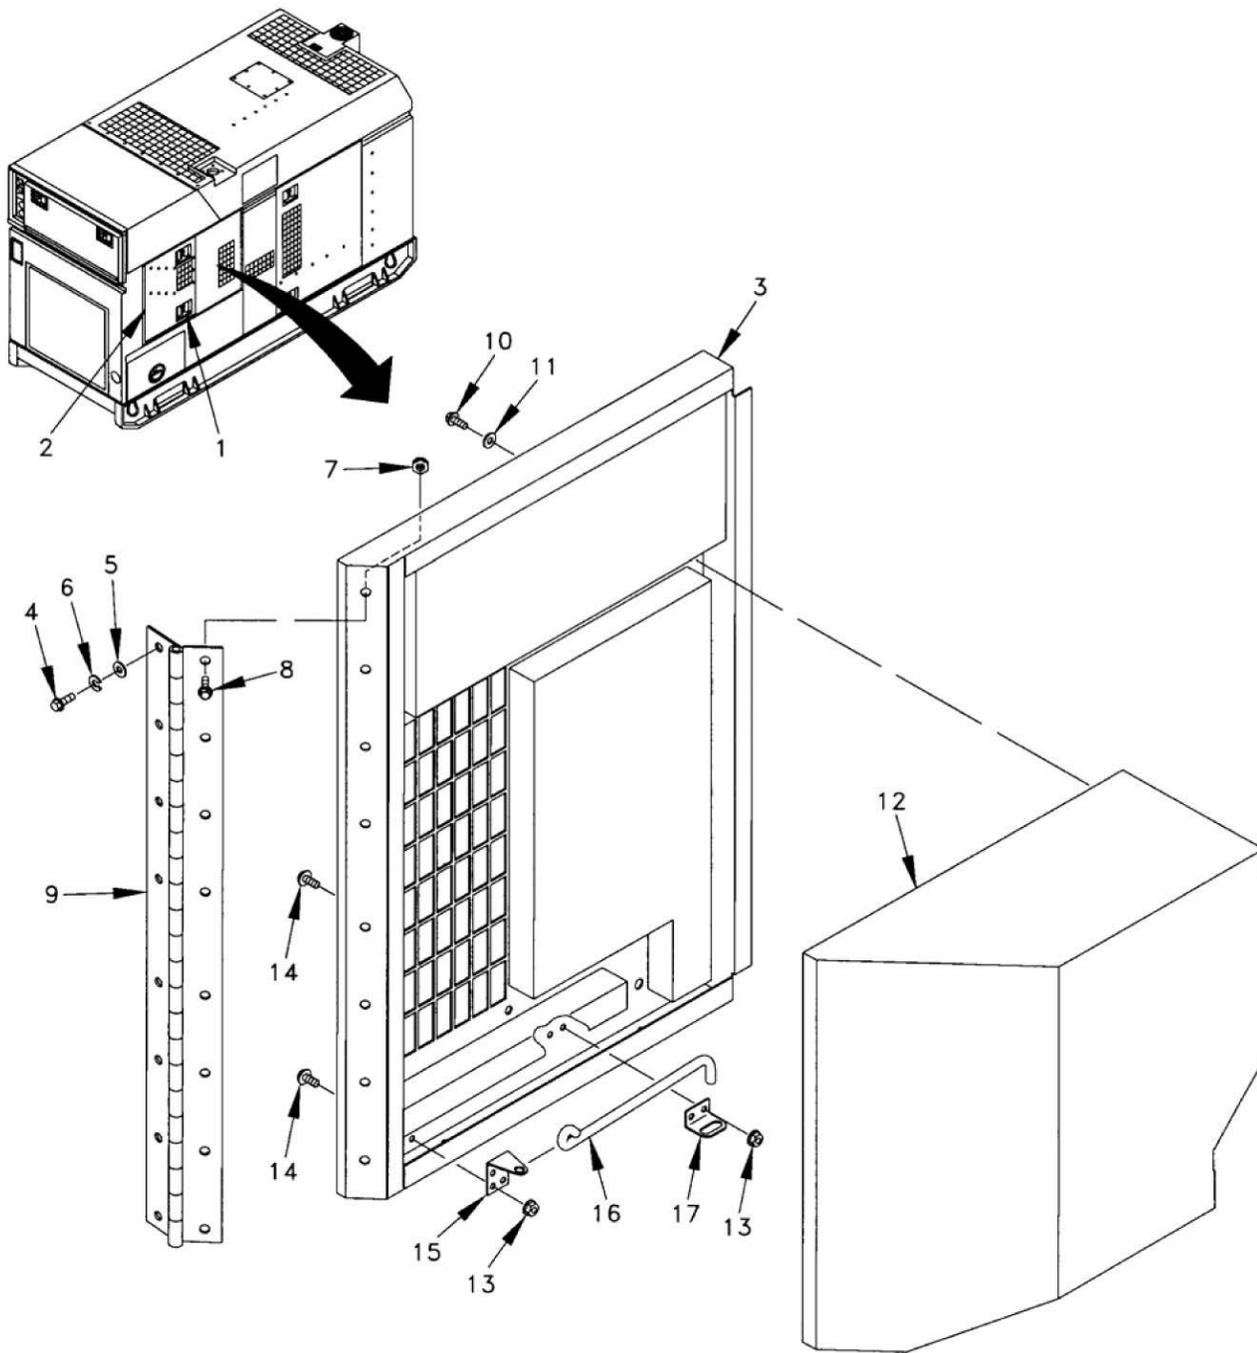

Figure 1. Right Rear Door Assembly.
1. Turn two latches (Figure 1, Item 1) and open right rear door assembly (latch) (Figure 1, Item 2) and right rear door assembly (Figure 1, Item 3).
2. Remove eight screws (Figure 1, Item 4), washers (Figure 1, Item 5), lock washers (Figure 1, Item 6), and right rear door assembly and hinge (Figure 1, Item 3).
1. Remove eight locknuts (Figure 1, Item 7), screws (Figure 1, Item 8), and hinge (Figure 1, Item 9).
2. Remove nine screws (Figure 1, Item 10), washers (Figure 1, Item 11), and duct (Figure 1, Item 12).
3. Remove four nuts (Figure 1, Item 13), screws (Figure 1, Item 14), door holding bracket (Figure 1, Item 15), door holding rod (Figure 1, Item 16), and holding rod bracket (Figure 1, Item 17).
3. Install holding rod bracket (Figure 1, Item 17), door holding rod (Figure 1, Item 16), and door holding bracket (Figure 1, Item 15), and secure with four screws (Figure 1, Item 14), and nuts (Figure 1, Item 13).
4. Install duct (Figure 1, Item 12) and secure with nine washers (Figure 1, Item 11), and screws (Figure 1, Item 10).
5. Install hinge (Figure 1, Item 9) and secure with eight screws (Figure 1, Item 8) and locknuts (Figure 1, Item 7).